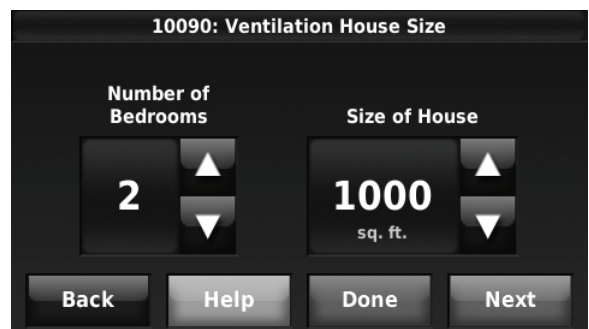

Fig. 257.
5. If ASHRAE was selected for ISU 10050, select the Number of Bedrooms and Size of House. See Fig. 257.